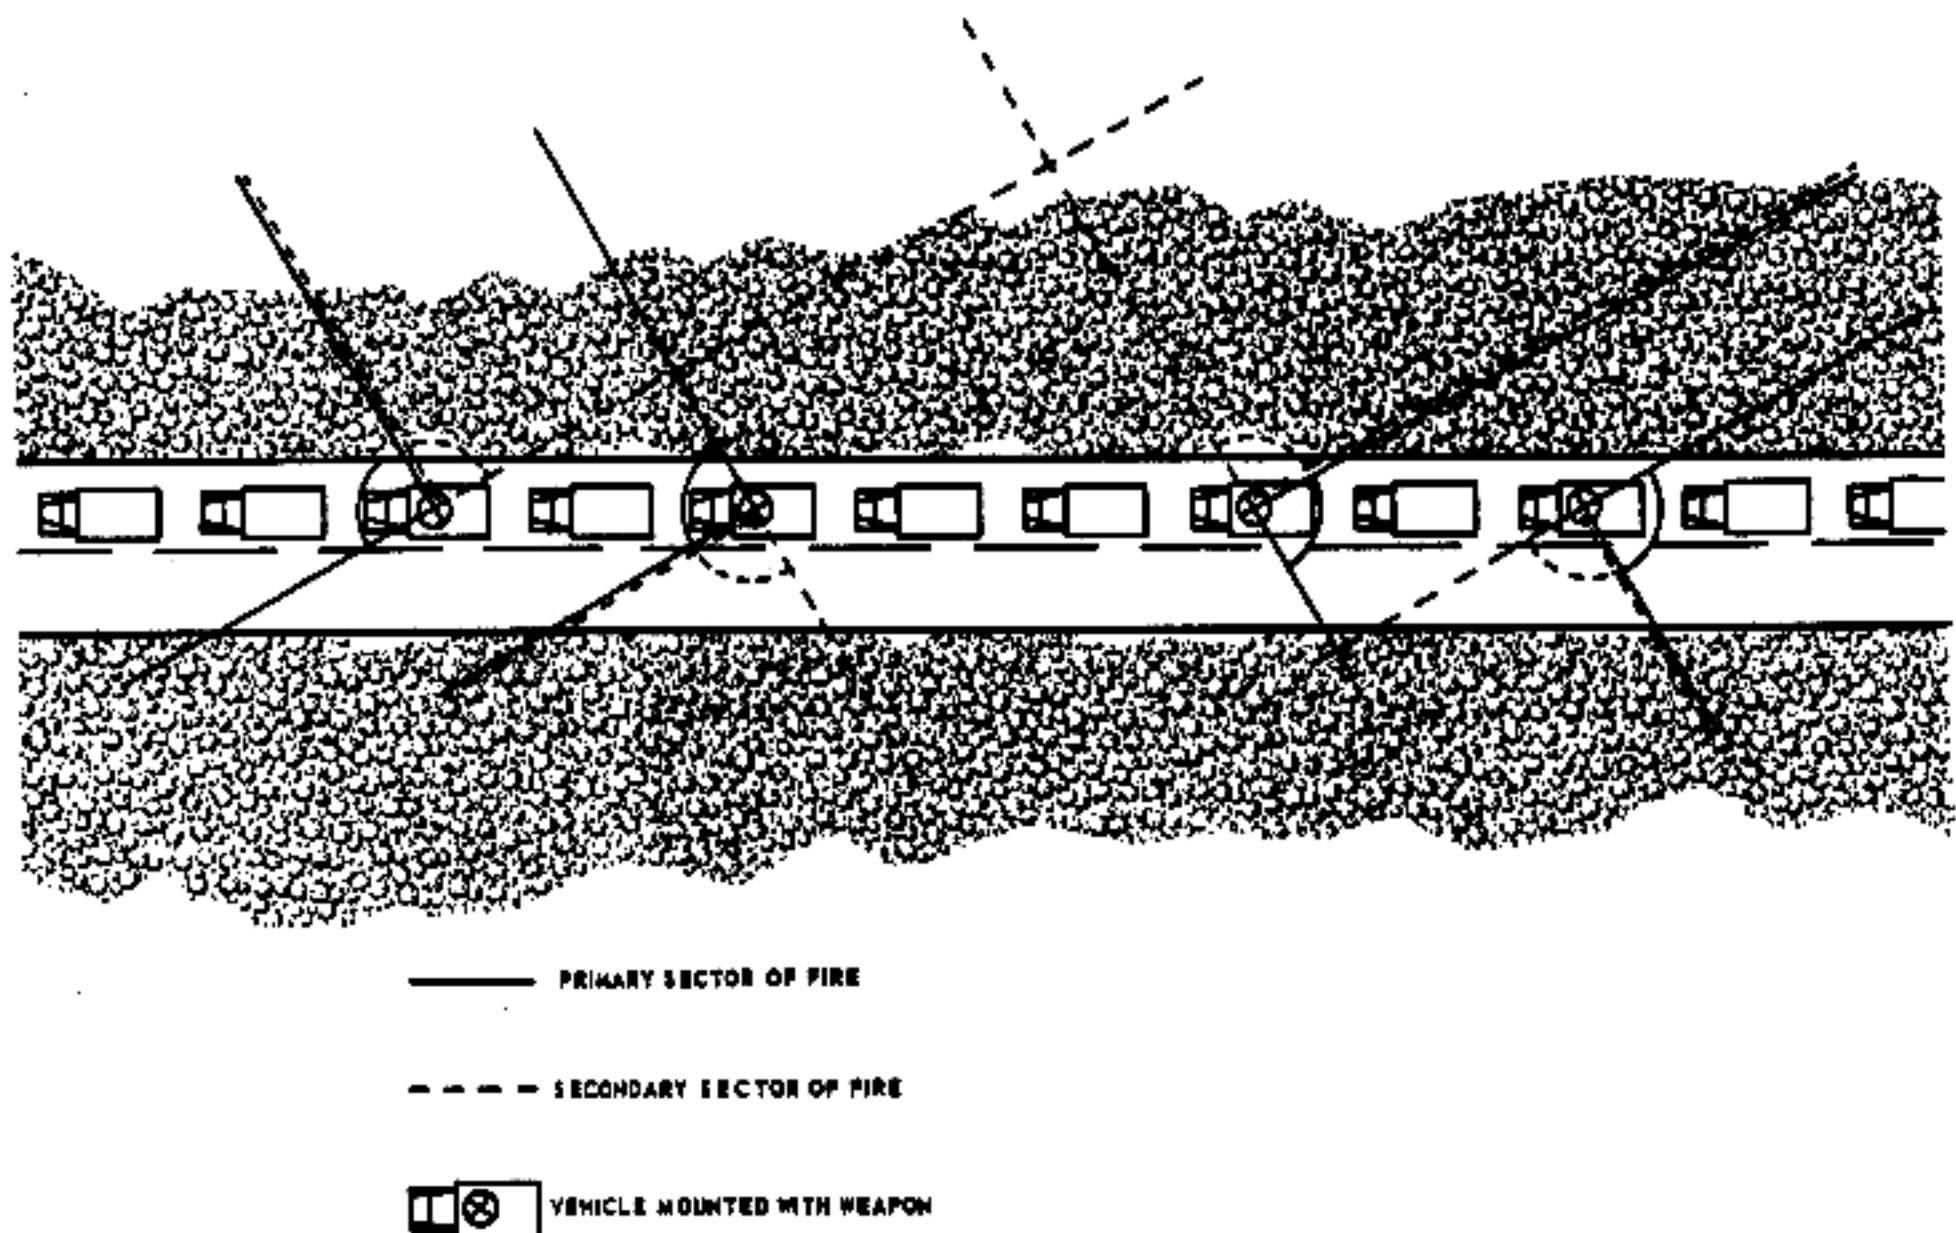

Figure 167. March column with four caliber .50 machineguns (added).
(1) The mission of AD machinegun defense is to impose maximum attrition upon the attacking enemy.
(2) Machinegun defenses are designed to combat lowflying, low-performance aircraft.
(3) Defense design should produce an equally balanced defense that is effective in all directions, unless a forced route of approach exists. Defense design should weight those routes of approach which are likely to be used.
(4) Machineguns should be sited so that the maximum number of targets can be engaged, continuous fire can be delivered, and the most likely routes of approach are covered.
b. Machineguns used to defend march columns should be interspersed in the convoy, with emphasis on the lead and rear elements (fig 167).